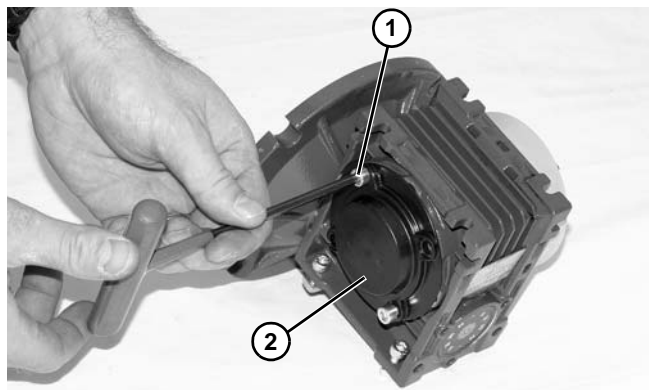

Figure 21
- Remove two (2) screws (**Figure 21, item 1**) and detach output shaft cover (**Figure 21, item 2**).